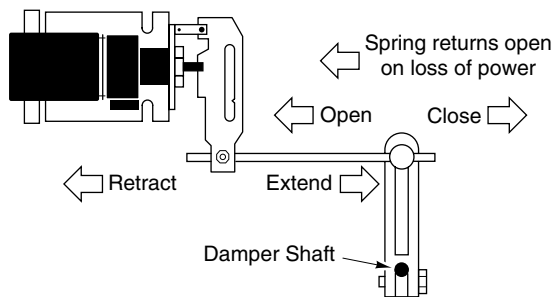
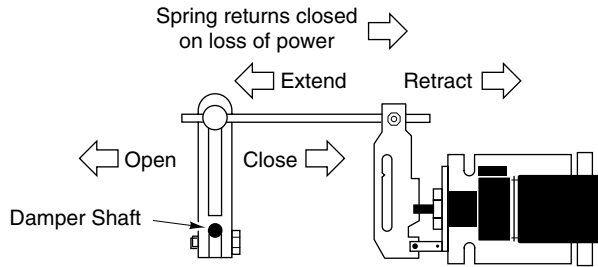

Figure-14 Dampers Open When Actuator Retracts (Spring-Returns Open on Power Loss).
Figure-15 Dampers Open When Actuator Extends (Spring-Returns Closed on Power Loss).
- a. Determine, from the system requirements, if the damper should spring-return to the open position (Figure-14) or closed position (Figure-15) whenever power is lost to the actuator. For example, an outside air damper actuator is typically linked so as to retract (spring-return) to the damper's fully closed position (safe position).